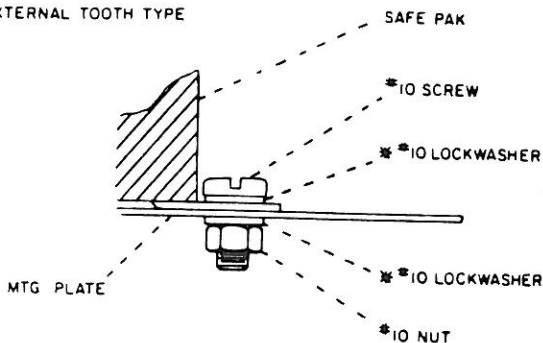

Fig. 4. Unit mounting detail.
- D. The PAK mounting bracket must be grounded to ensure intrinsic safety. Resistance between bracket and ground electrode should be below one ohm. (See Figs. 4 and 5 for recommended selection of grounding hardware, and refer to Article 250 of the National Electrical Code for methods and practice.)